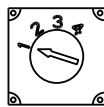

Figure 10: Regulator Voltage Selection Switch
1. Regulator has four selectable set points. Before installing regulator, verify appropriate switch setting for your application and change if necessary. See Figure 10 and Table 1 for fixed voltage set point options when used without battery sensor/harness. See Table 2 for battery chemistry-based charge profiles when used with compatible CEN battery sensor/harness. **Contact battery manufacturer or vehicle OEM for charging set point recommendations for your environment or application if necessary.**